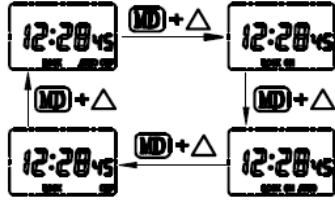

Figure 13 Manual/automatic time switch setting process
4.3 After locking the switch, press "MD" and "+" at the same time to switch manual/automatic status. Continuously press them together, the screen will show "AUTO OFF", "ON", "ON AUTO" and "OFF" successively, see Figure 13. When the circuit shall be on and off temporarily in the process of operation, the combination buttons can be used to adjust the switch to ON and OFF; if the time switch shall work automatically according to the set time, the combination button shall be used to adjust the switch to "ON AUTO", then the time switch may work as set, so as to achieve automatic control.